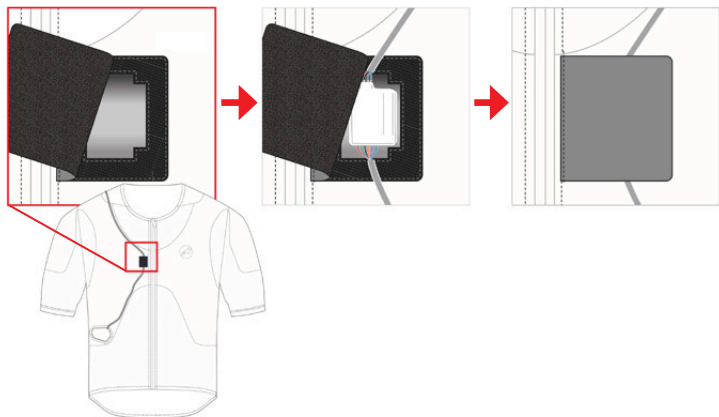

Figure 26: Inserting the LED Display (3) and Activation Zip (2)
1. **Insert the LED Display (3) and Activation Zip (2)** - Reinsert the LED Display (3) inside its casing slot and put the Activation Zip (2) back inside the pocket, taking care to position the Activation Zip (2) correctly inside its casing and making sure the Velcro is tightly closed as shown in Figure 26.